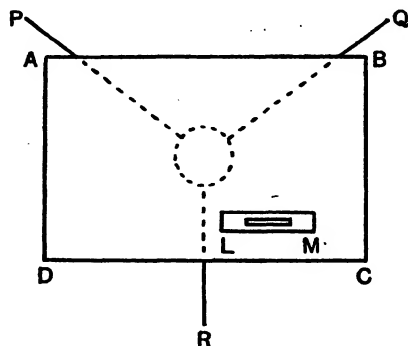

FIG. 55. PLAN OF PLANE TABLE
**Plane table.**—Work in surveying often requires a flat, level table which can be placed at a suitable height, even on rough ground. The plane table provides this in a convenient form. The extending legs of a camera tripod are the base. The legs can be adjusted to any length between 2 ft. 3 in. and 4 ft. 6 in.—larger or smaller sizes can be obtained; they can be packed up into a compact package for carrying. A drawing board is fitted with a screw at the centre of one side, so that it can be fixed on to the top of the tripod, Fig. 55. The setting up of the table requires method and care. Instructions follow: